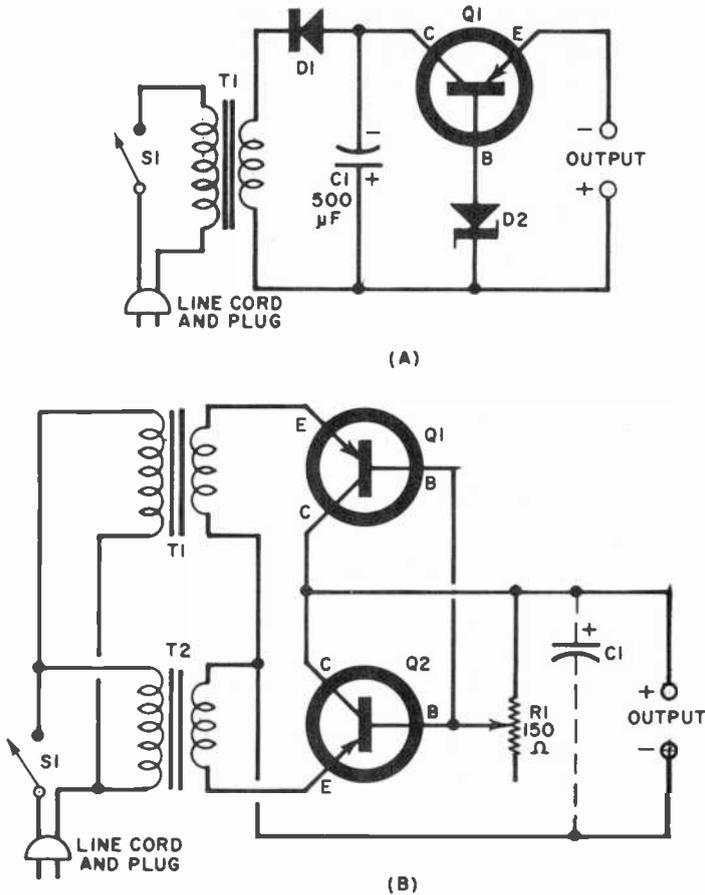

Fig. 2. A voltage-regulated power supply is shown at (A). At (B) is a power supply with adjustable current.
Suitable for use either as a bench power supply or as a permanent power source for other equipment, the series regulated dc power supply circuit given in Fig. 2(A) requires a minimum of components — a general-purpose rectifier, a step-down power transformer, a medium-power transistor, a 500- μ F electrolytic capacitor, and a small zener diode. The zener diode's voltage rating determines the circuit's dc output voltage which, in general, will be within a half volt or so of $D1$'s voltage. For optimum regulation, $T1$'s secondary should supply an ac voltage from 50% to 100% higher than the desired dc output voltage; but, of course, not higher than the rectifier's or transistor's maximum ratings.
trated in Fig. 2(B) may be used as a battery charger, as a speed control and power source for battery-operated models and toys, and for light-duty electroplating. It is a unique design in that transistors are used both to provide full-wave rectification and as current-control devices.